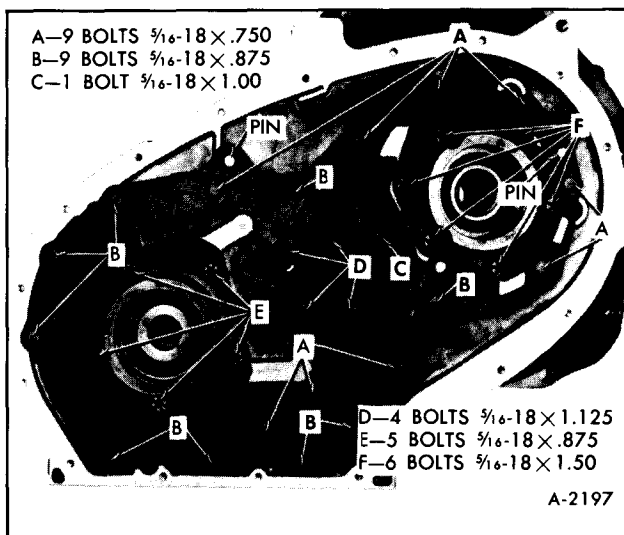

Figure 88—Pump Cover Plate Screws
2. Install pump cover plate on transmission and install attaching bolts per bolt chart, Figure 88.
**NOTE:** Do not install pump attaching bolts (F) or single bolt (E) in pump cover plate at this time.
6. Install remaining bolt (E) in driven support housing, tightening to 20 foot-pounds.
3. Install six retaining bolts (F), finger tight, Figure 88.